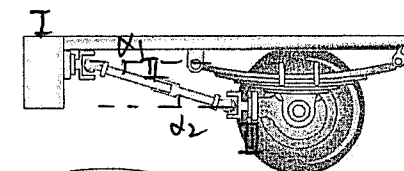

Fig. 4 Schematic Diagram of Rear Wheel Drive System
1. What type of universal joint (万向节) is used in Figure 4? What are the conditions for their constant speed transmission (等速传动)? (5 marks)